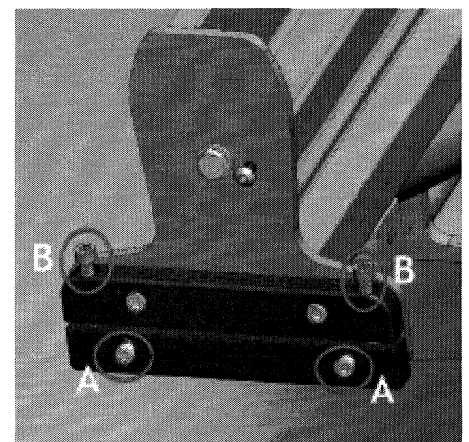

Fig. 13
12. Using a 5 mm Allen wrench, loosen screws marked "A" [Fig. 13].
13. Using a 5 mm Allen wrench, tighten two (2) screws marked "B" to lower floor support bar until it just contacts floor and is level across its length. Then, tighten two (2) screws marked "A".